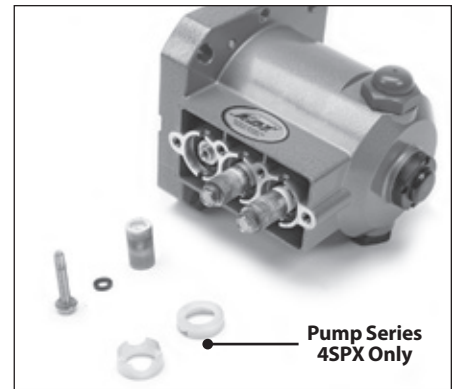

Figure 10
**NOTE:** Pump series 4SPX seal retainer is different than the 4DNX and 4DX pump series (See Figure 10).